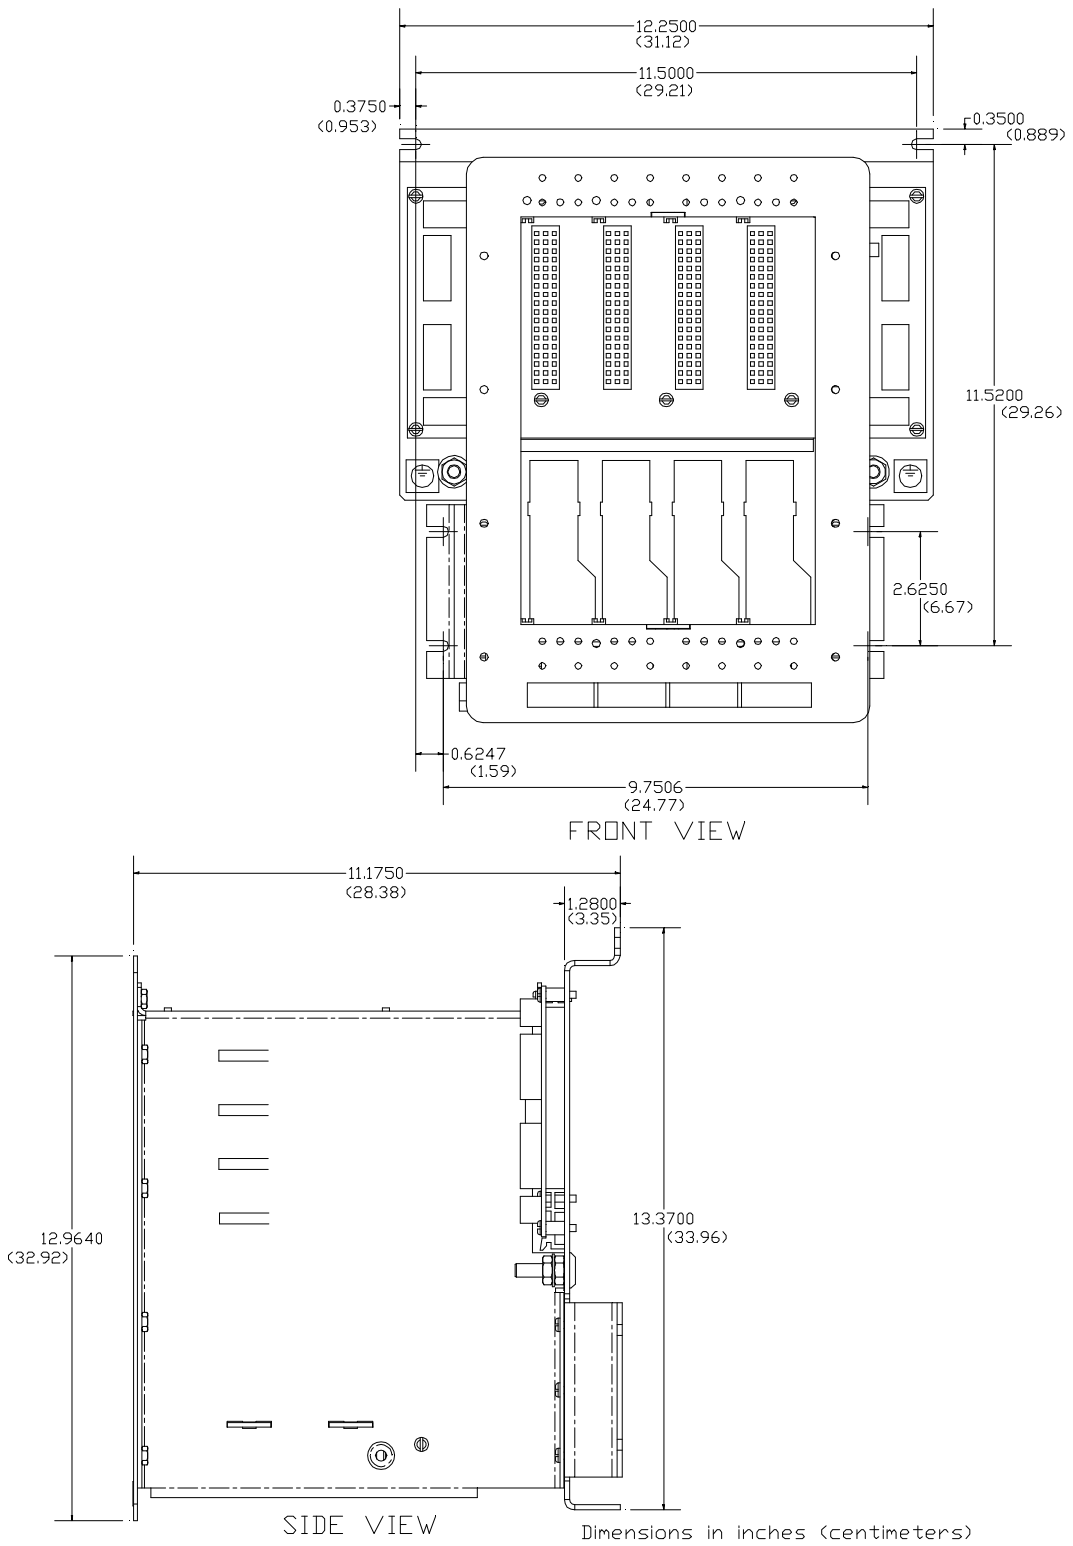

Figure 2-2 Remote I/O Rack Dimensions
3. If required, up to four Remote I/O Racks (marshalled I/O terminations only) can be installed in a MODLUPAC enclosure if one or more flat panels are installed in the enclosure first. If an enclosure is user-supplied, refer to Figure 2-2 for Remote I/O Rack dimensions and determine the desired enclosure layout.
3. Temporarily position the Remote I/O Rack at its intended mounting position on the flat mounting surface (wall or instrument panel). After making sure the top of the rack is level, use a pencil to mark the mounting surface at each screw slot location in the flange to prepare for drilling mounting holes. For rack dimensions and mounting information, see Figure 2-2 and 2-3 respectively. After marking hole positions, set the rack aside.